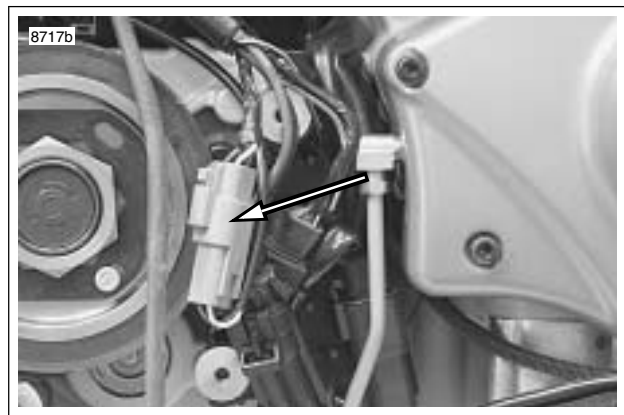

Figure 7-97. Vehicle Speed Sensor Connector [65]
- See Figure 7-97. Connect vehicle speed sensor connector.